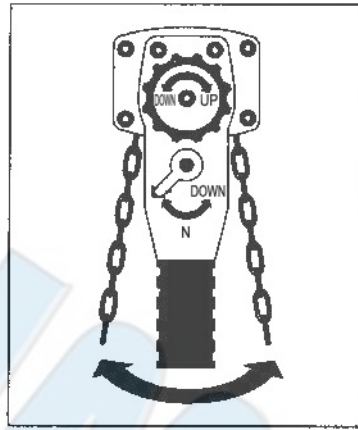

FIGURE 5
- (b) Set change lever in desired direction, UP or DOWN, and operate handle back and forth to move load in proper direction. (FIGURE 5, 6).